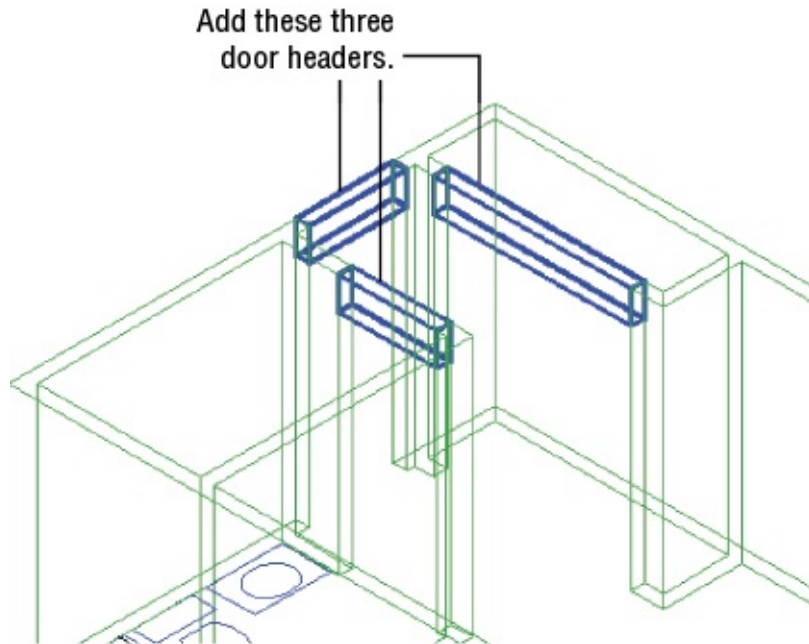

FIGURE 20.25 Adding the remaining door headers
6. Zoom and pan so that your view resembles Figure 20.25, and then repeat steps 4 and 5 to draw the other door headers.